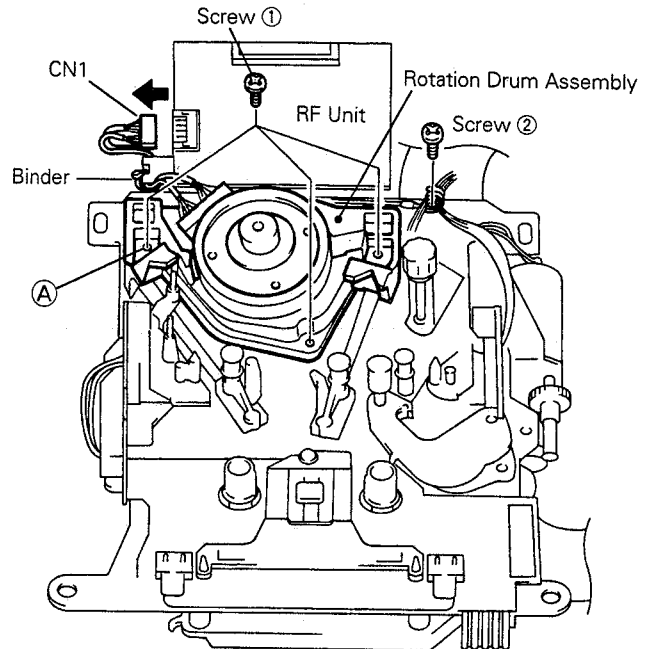

Fig. 5-1
However, be sure to tighten three screws ① counterclockwise starting from position A with torque of 1kgcm as shown in Fig. 5-1.